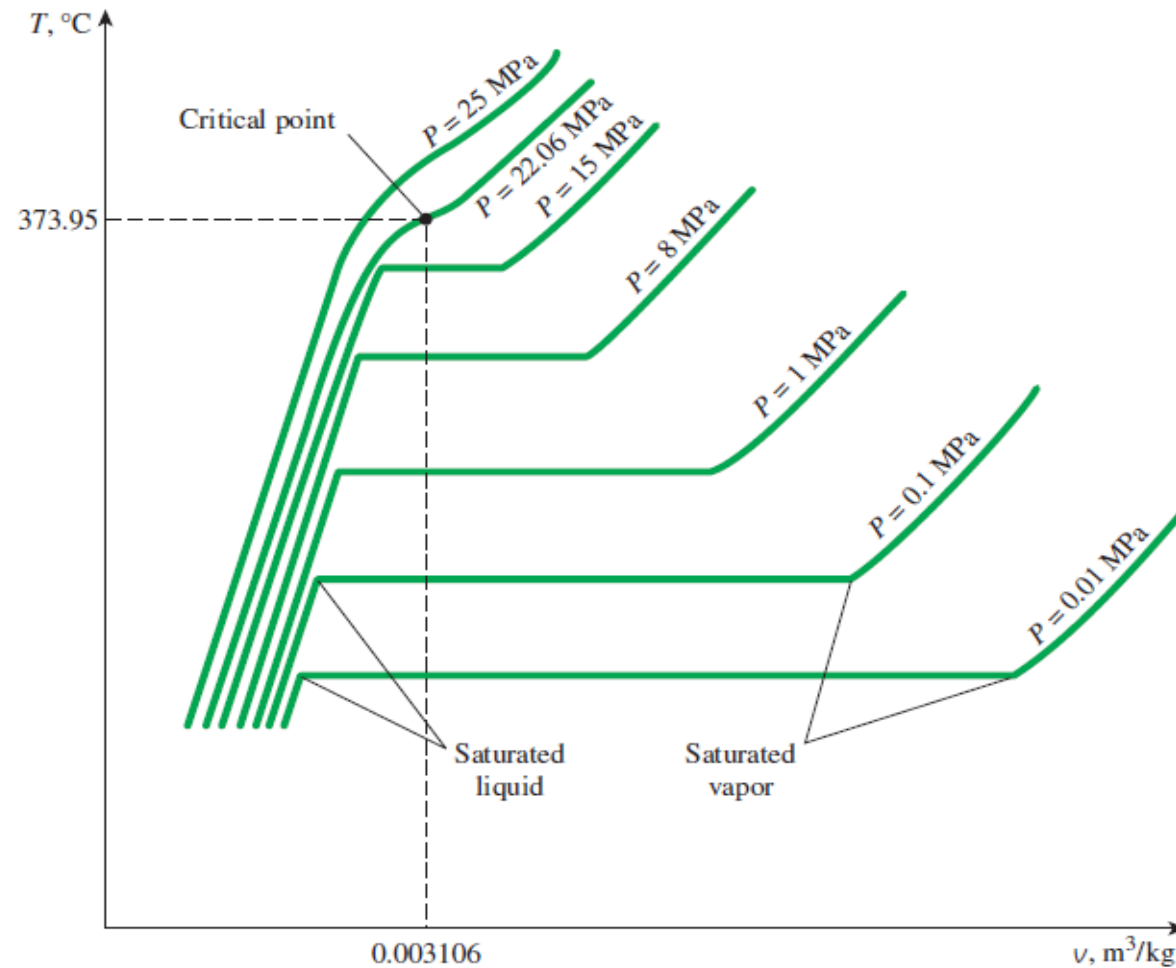

Fig. 3.9: T - v diagram of constant-pressure phase-change processes of a pure substance at various pressures
- As the pressure is increased further, this saturation line will continue to get shorter, as shown in Fig. 3.9, and it will become a point when the pressure reaches 22.09 MPa for the case of water.
- The saturated liquid states in Fig. 3.9 can be connected by a line called the *saturated liquid line*, and saturated vapor states in the same figure can be connected by another line, called the *saturated vapor line*.